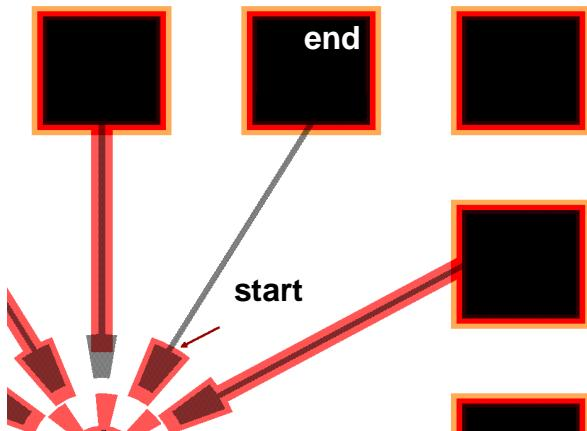

Figure 32: Wiring the pad to the stator
- Select **View > Zoom > Mouse** so that the pad and torus are visible as in Figure 32. Left-click at one box corner, hold the button down as you drag to the opposite box corner, and release.